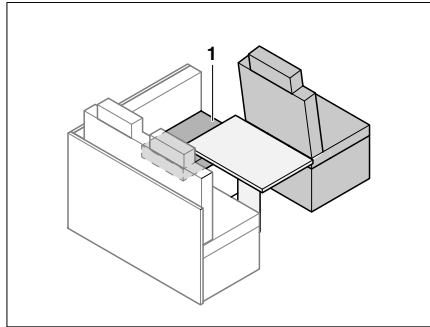

Fig. 187 Prior to conversion
- Lay the seat cushion (Fig. 187,1) to the side.